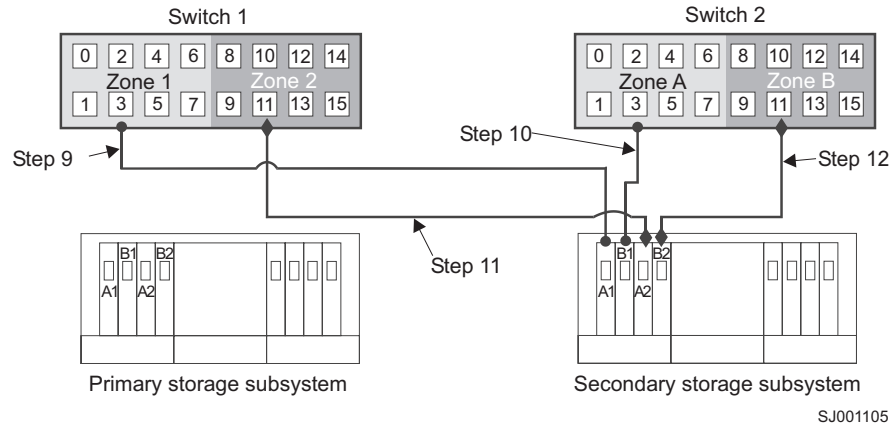

Figure 54. Connecting the secondary storage subsystem to fibre-channel switches
9. Connect controller port A1 of the secondary storage subsystem to an available port in Zone 1 of Switch 1. See Figure 54 on page 125 for step 9 through step 12 on page 125.